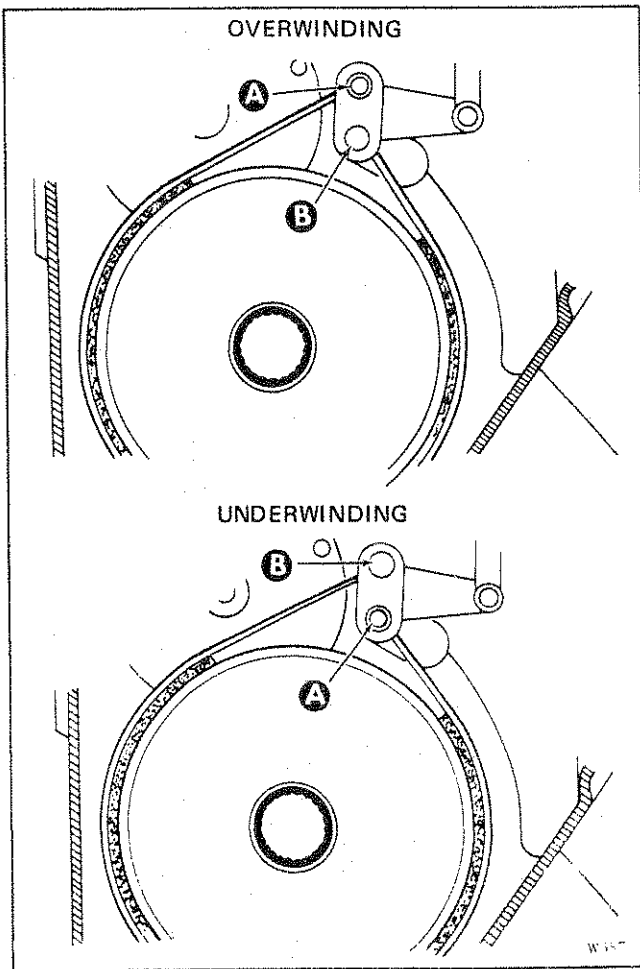

FIGURE 4-7. BRAKE BAND OVERWIND AND UNDERWIND ARRANGEMENT
a. Brake Band. (See Figure 4-7.) Change the anchoring end of the brake band by changing the positions of pins **A** and **B**.
4-20. Bevel Gear Shaft Arrangement. (See Figure 4-7.) To arrange the bevel gear shaft for underwind operation, proceed as follows: